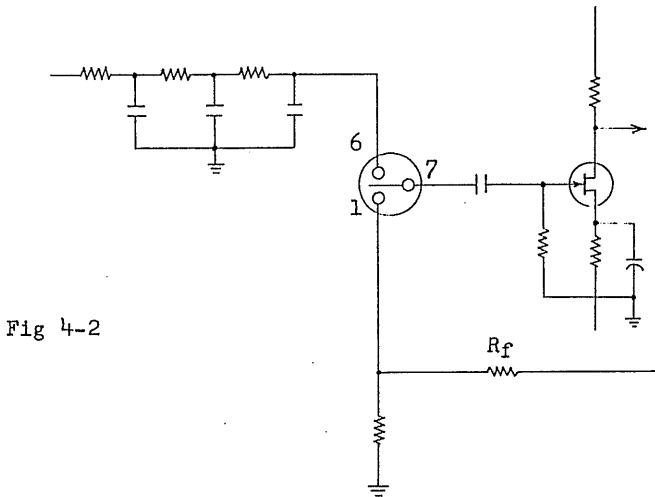

Fig 4-2
In Fig 4-2, the signal from the filter circuit is given to the terminal (6), and the signal converted to the alternating current comes from the terminal (7) into the input of the AC amplifier. There, the signal is sufficiently amplified, is synchronously rectified and becomes the output DC voltage. This output voltage is subjected to negative feedback again to the chopper terminal (1) via  $R_f$ , and improves the stability and linearity of the DC amplifier.